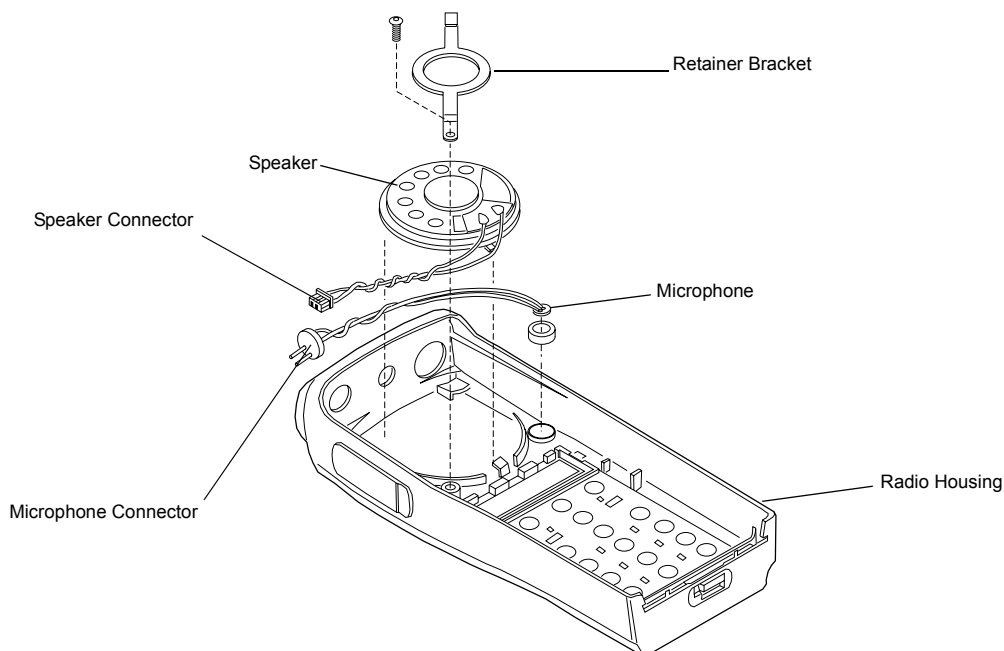

Figure 6-7. Removal Speaker-Microphone Assembly
1. Remove the screw from the speaker retainer using a T6 Torx screwdriver (Figure 6-7).